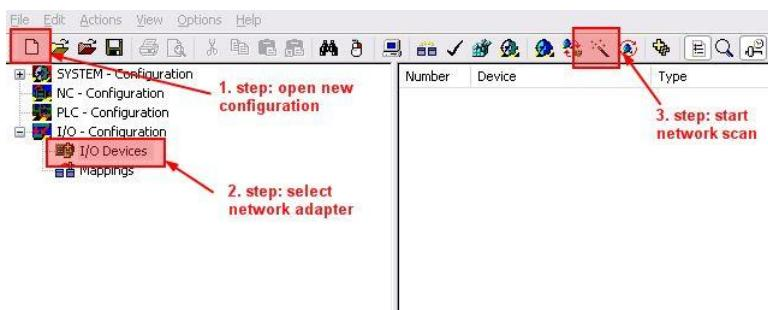

Figure 46: Scan for new EtherCAT devices with TwinCAT 2
- TwinCAT 2:** Open a new System Manager configuration and scan the network for new devices (Figure 46).